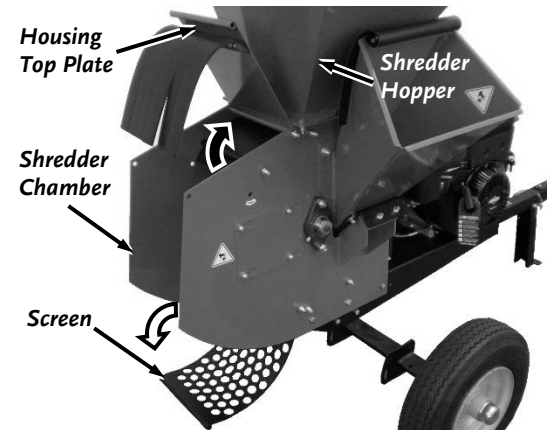

Figure 42
6. Rotate the Housing Top Plate up towards the Hopper, exposing the Screen (**Figure 42**).
25. Reposition the Screen and reinstall the Upper Screen Retaining Bolt and Lock Nut. Tighten the Upper and Lower Screen Bolts (**Figure 42**).